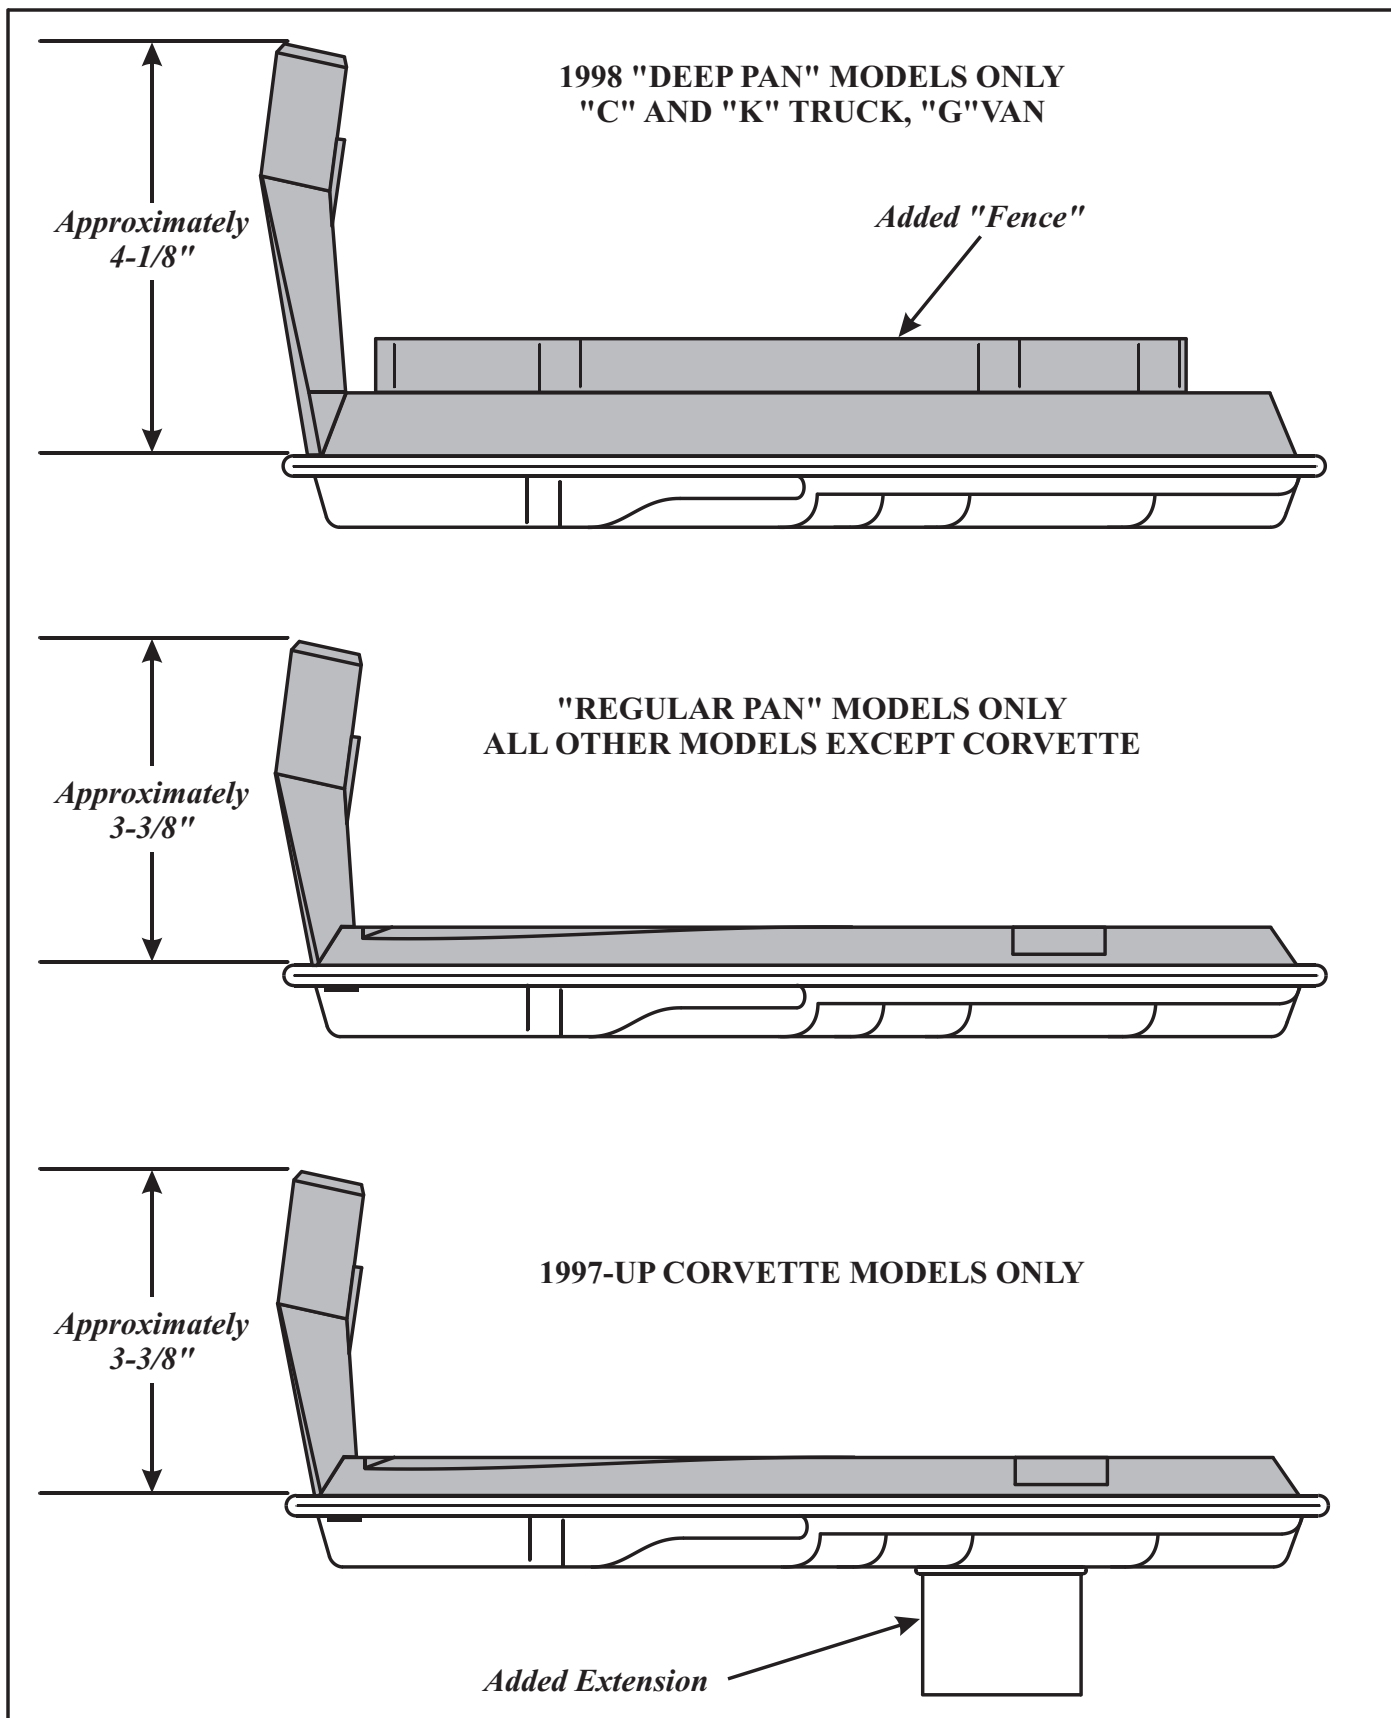

Figure 2
- (2) **BOTTOM PAN FILTER** - There are now three different filters for the 1998 model year. The bottom profile of the filters are all the same as shown in Figure 1. The side profiles however are different as the "Deep" pan requires the filter with the longer neck, the "Regular" pan requires the filter with the shorter neck, and the 97-up Corvette requires the filter with the added extension on the bottom. Refer to Figure 2.